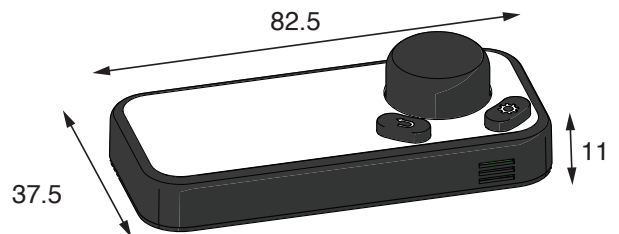

Fig. 5
- Finally, press the top cover firmly onto the back cover as shown in Fig. 5.